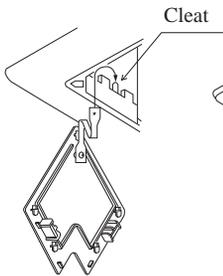

Figure 8
**As Figure 8 shown, tie the rope of the corner cover on the cleat of the decorative panel.